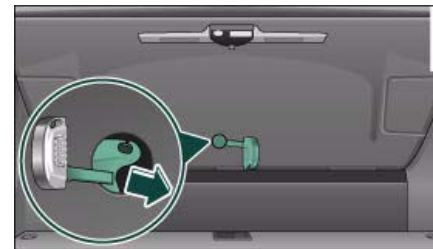

Fig. 47 Luggage compartment: Access to manual release
- Prise off the cover (using the emergency key) ⇒ fig. 47.